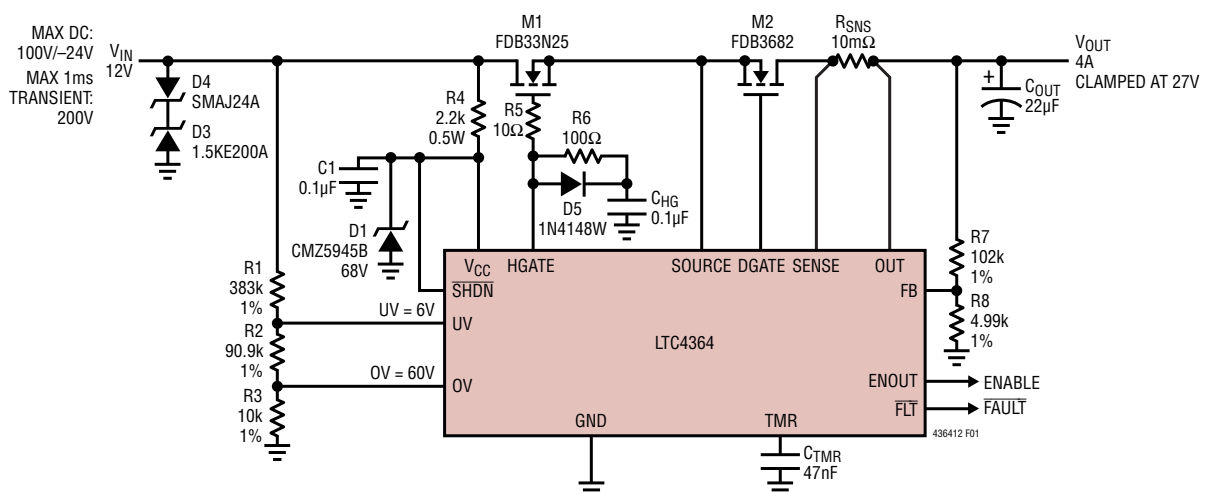
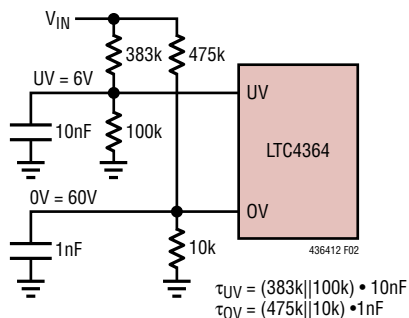
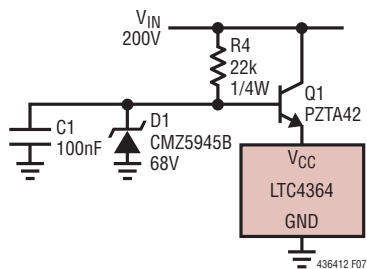

Figure 1. 4A, 12V Overvoltage Output Regulator with Reverse Current Protection
Figure 2. External UV and OV Configuration Blocks Start-Up Into an Overvoltage Condition
Figure 7. Buffering  $V_{CC}$  to Extend Input Supply Range
**$\Delta V_{HGATE}$  vs  $V_{IN}$  in Figure 1**
**$\Delta V_{DGATE}$  vs  $V_{IN}$  in Figure 1**
The LTC4364 drives an N-channel MOSFET (M1) at the HGATE pin to limit the voltage and current to the load circuitry during supply transients or overcurrent events. The selection of M1 is critical for this application. It must stay on and provide a low impedance path from the input supply to the load during normal operation and then dissipate power during overvoltage or overcurrent conditions. The LTC4364 also drives a second N-channel MOSFET (M2) at the DGATE pin as an ideal diode to protect the load from damage during reverse polarity input conditions, and to block reverse current flow in the event the input collapses. A typical application circuit using the LTC4364 to regulate the output at 27V during input surges with reverse input protection is shown in Figure 1.
Input overvoltage is detected with the OV pin and an external resistive divider connected to the input (Figure 1). At power-up, if the OV pin voltage is higher than its 1.25V threshold before the 100 $\mu\text{s}$  internal power-on-reset expires, or before the input undervoltage condition is cleared at the UV pin, the HGATE pin will be held low until the OV pin voltage drops below its threshold. To prevent start-up in the event the board is hot swapped into an overvoltage supply, separate resistive dividers with filtering capacitors can be used for the OV and UV pins (Figure 2). The RC constants should be skewed so that  $\tau_{UV}/\tau_{OV} > 50$ . In Figure 2, If the board is plugged into a supply that is higher than 60V, the LTC4364 will not turn on the pass devices until the supply voltage drops below 60V.
The LTC4364 detects input undervoltage conditions such as low battery using the UV pin. When the voltage at the UV pin is below its 1.25V threshold, the HGATE pin pulls low to keep the pass device off. Once the UV pin voltage rises above the UV threshold plus the UV hysteresis (50mV typical), the HGATE pin is allowed to pull up without going through a timer cycle. In Figure 1 and Figure 2, the input UV threshold is set by the resistive dividers to 6V. An undervoltage condition does not produce an output at the  $\overline{\text{FLT}}$  pin.
The LTC4364 drives two N-channel MOSFETs, M1 and M2, as the pass devices to conduct the load current (Figure 1). The important features are on-resistance,  $R_{\text{DS(ON)}}$ , the maximum drain-source voltage,  $V_{(\text{BR})\text{DSS}}$ , the threshold voltage, and the safe operating area, SOA.
The added gate capacitor slows down the turn-off time during fault conditions and allows higher peak currents to build up during an output short event. If this is a concern, an extra resistor, R6, in series with  $C_{HG}$  can restore the turn-off time. A diode, D5, should be placed across R6 with the cathode connected to  $C_{HG}$  as shown in Figure 1. In a fast transient input step, D5 provides a bypass path to  $C_{HG}$  for the benefit of holding HGATE low and preventing self enhancement.
The LTC4364 is tested to operate to 80V and guaranteed to be safe from damage between 100V and  $-40V$ . Voltage transients above 100V or below  $-40V$  may cause permanent damage. During a short-circuit condition, the large change in current flowing through power supply traces coupled with parasitic inductances from associated wiring can cause destructive voltage transients in both positive and negative directions at the  $V_{CC}$ , SOURCE, and OUT pins. To reduce the voltage transients, minimize the power trace parasitic inductance by using short, wide traces. A small RC filter (R4 and C1 in Figure 1) at the  $V_{CC}$  pin filters high voltage spikes of short pulse width.
Another way to limit supply transients above 100V at the  $V_{CC}$  pin is to use a Zener diode and a resistor, D1 and R4, as shown in Figure 1. D1 clamps voltage spikes at the  $V_{CC}$  pin while R4 limits the current through D1 to a safe level during the surge. In the negative direction, D1 along with R4 clamps the  $V_{CC}$  pin near GND. The inclusion of R4 in series with the  $V_{CC}$  pin increases the minimum required supply voltage due to the extra voltage drop across the resistor, which is determined by the supply current of the LTC4364 and the leakage current of D1. 2.2k adds about 1V to the minimum operating voltage.
For sustained, elevated supply voltages, the power dissipation of R4 becomes unacceptable. This can be resolved by using an external NPN transistor (Q1 in Figure 7) as a buffer. To protect Q1 against supply reversal, block the collector of Q1 with a series diode or tie it to the cathode of D3 and D4 in Figure 1.
Transient suppressor D3 in Figure 1 clamps the input voltage to 200V for voltage transients higher than 200V, to prevent breakdown of M1. It also blocks forward conduction in D4. D4 limits the SOURCE pin voltage to 24V below GND when the input goes negative.  $C_{OUT}$  helps absorb the inductive energy at the output upon a sudden input short, protecting the OUT and SENSE pins.
The OUT and SENSE pins can withstand up to 100V above and 20V below GND. In all applications the output must be bypassed with at least 22 $\mu$ F low ESR electrolytic ( $C_{OUT}$  in Figure 1) to stabilize the voltage and current limiting loops, and to minimize capacitive feedthrough of input transients. Total ceramic bypassing of up to one-tenth the total electrolytic capacitance is permissible without compromising performance.